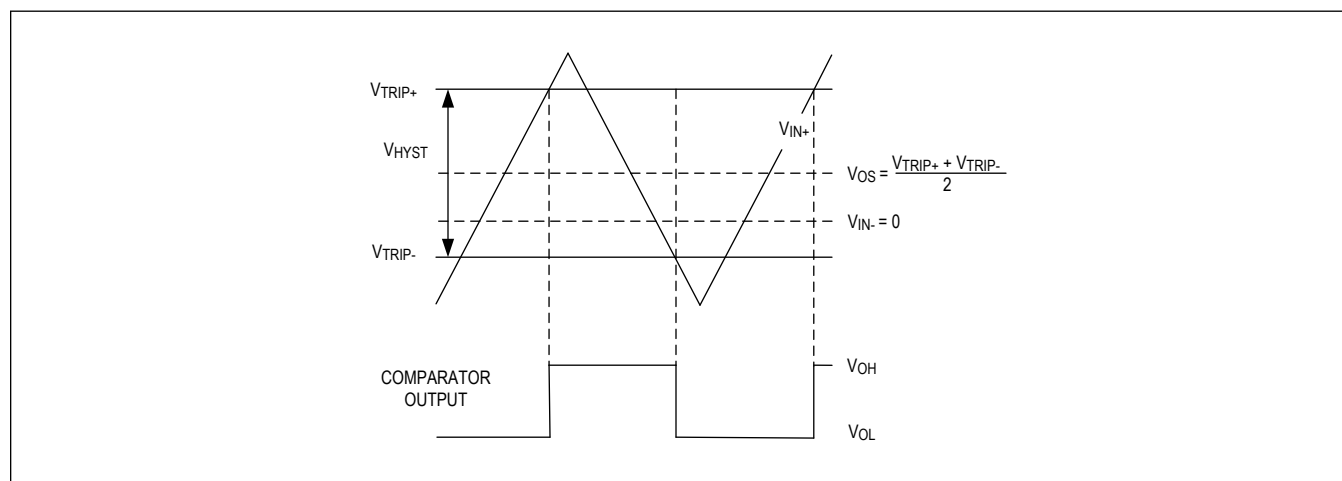

Figure 1. Input and Output Waveform, Noninverting Input Varied
| Figure 1. Input and Output Waveform, Noninverting Input Varied . . . . . | 9  |
**Note 1:** All specifications are 100% production tested at TA = +25°C. Specification limits over temperature (TA = TMIN to TMAX) are guaranteed by design, not production tested.**Note 2:** Inferred from CMRR test. Note also that either or both inputs can be driven to the absolute maximum limit (0.3V beyond either supply rail) without damage or false output inversion.**Note 3:** VOS is defined as the center of the input-referred hysteresis zone. See Figure 1.**Note 4:** The input-referred trip points are the extremities of the differential input voltage required to make the comparator output change state. The difference between the upper and lower trip points is equal to the width of the input-referred hysteresis zone. See Figure 1.**Note 5:** The polarity of IB reverses direction as VCM approaches either supply rail.**Note 6:** Specified over the full common-mode voltage range (VCM).**Note 7:** Specified as the difference between tPD+ and tPD-.
The hysteresis in a comparator creates two trip points: one for the rising input voltage and one for the falling input voltage (Figure 1). The difference between the trip points is the hysteresis. The average of the trip points is the offset voltage. When the comparator's input voltages are equal, the hysteresis effectively causes one comparator input voltage to move quickly past the other, thus taking the input out of the region where oscillation occurs. Standard comparators require hysteresis to be added with external resistors. The device's fixed internal hysteresis eliminates these resistors. To increase hysteresis and noise margin even more, add positive feedback with two resistors as a voltage-divider from the output to the non-inverting input.
Figure 1 illustrates the case where  $IN^-$  is fixed and  $IN^+$  is varied. If the inputs were reversed, the figure would look the same, except the output would be inverted.